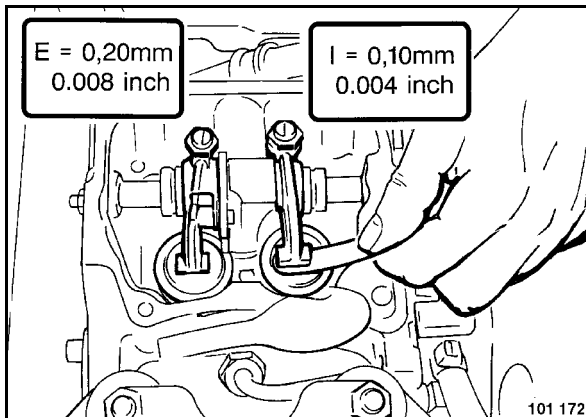

Fig. 56
- Check the valve clearance with a feeler gauge on both valves (Fig. 56).